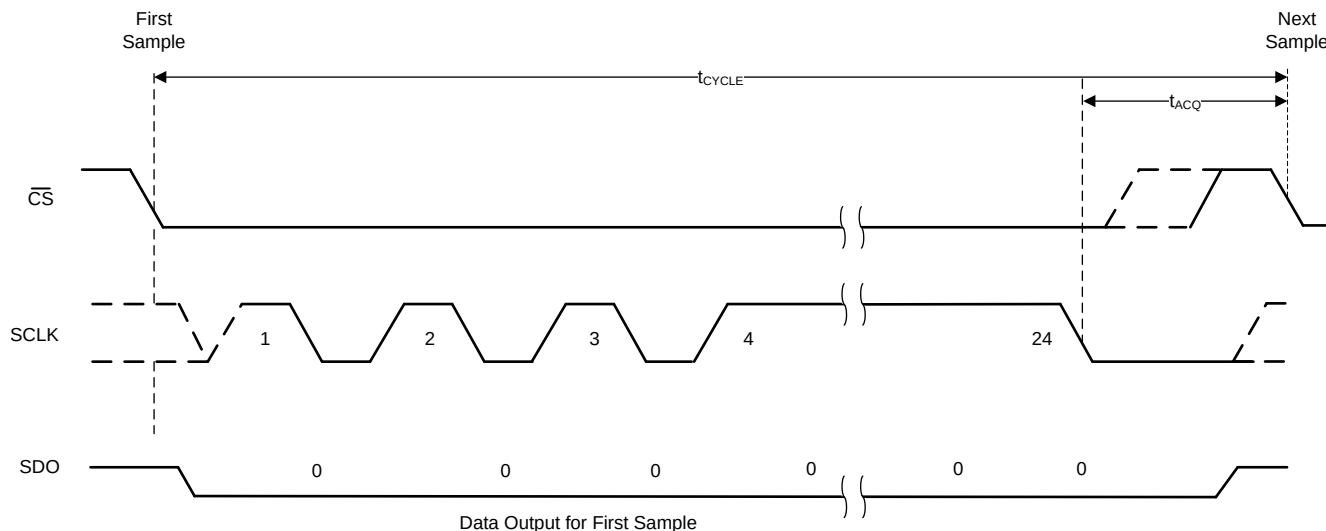
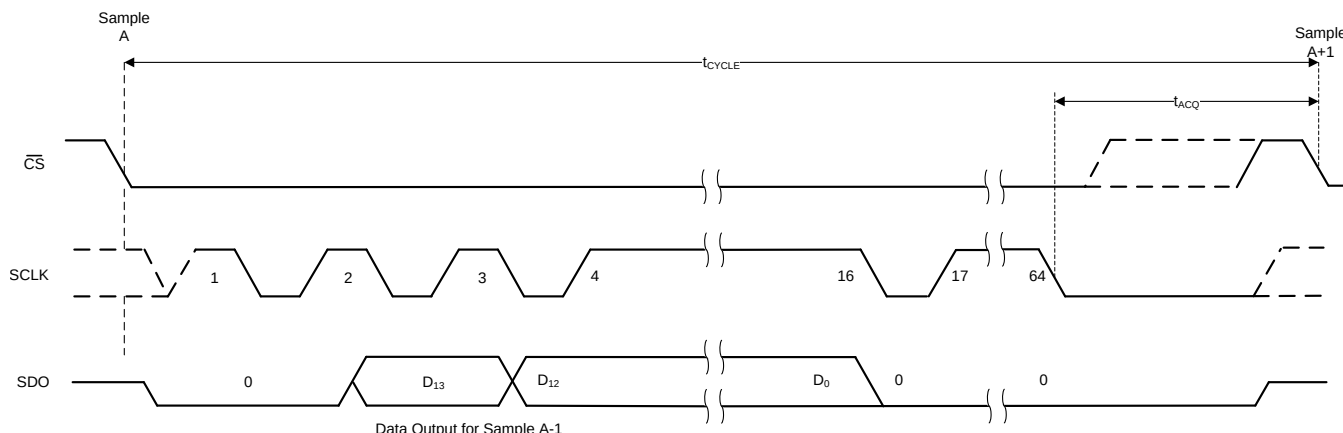

Figure 41. Timing for Offset Calibration on Power-Up
Figure 42. Timing for Offset Calibration During Normal Operation
The host controller must provide a serial transfer frame as described in Figure 41 or in Figure 42 to enter OFFCAL state.
On power-up, the host must provide 24 SCLKs in the first serial transfer to enter the OFFCAL state. The device provides 0's on SDO during offset calibration. For acquisition of the next sample, a minimum time of t_{ACQ} must be provided. If the host controller enters the OFFCAL state, but pulls the CS pin high before providing 24 SCLKs, then the offset calibration process is aborted and the device enters the ACQ state. Figure 41 and Table 2 provide the timing for offset calibration on power-up.
(1) In addition to the timing specifications of Figure 41 and Table 2, the timing specifications described in Figure 2 and the Timing Requirements table are also applicable for offset calibration on power-up.
During normal operation, the host must provide 64 SCLKs in the serial transfer frame to enter the OFFCAL state. The device provides the conversion result for the previous sample during the first 18 SCLKs and 0's on SDO for the rest of the SCLKs in the serial transfer frame. For acquisition of the next sample, a minimum time of t_{ACQ} must be provided. If the host controller enters the OFFCAL state, but pulls the $\overline{CS}$ high before providing 64 SCLKs, then the offset calibration process is aborted and the device enters ACQ state. Figure 42 and Table 3 provide the timing for offset calibration during normal operation.
- (1) In addition to the timing specifications of Figure 42 and Table 3, the timing specifications described in Figure 2 and the Timing Requirements table are also applicable for offset calibration during normal operation.